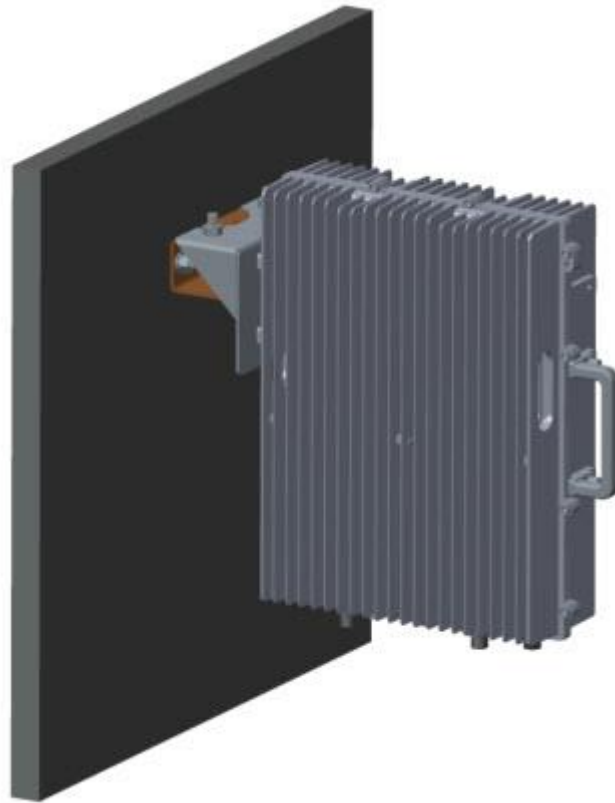
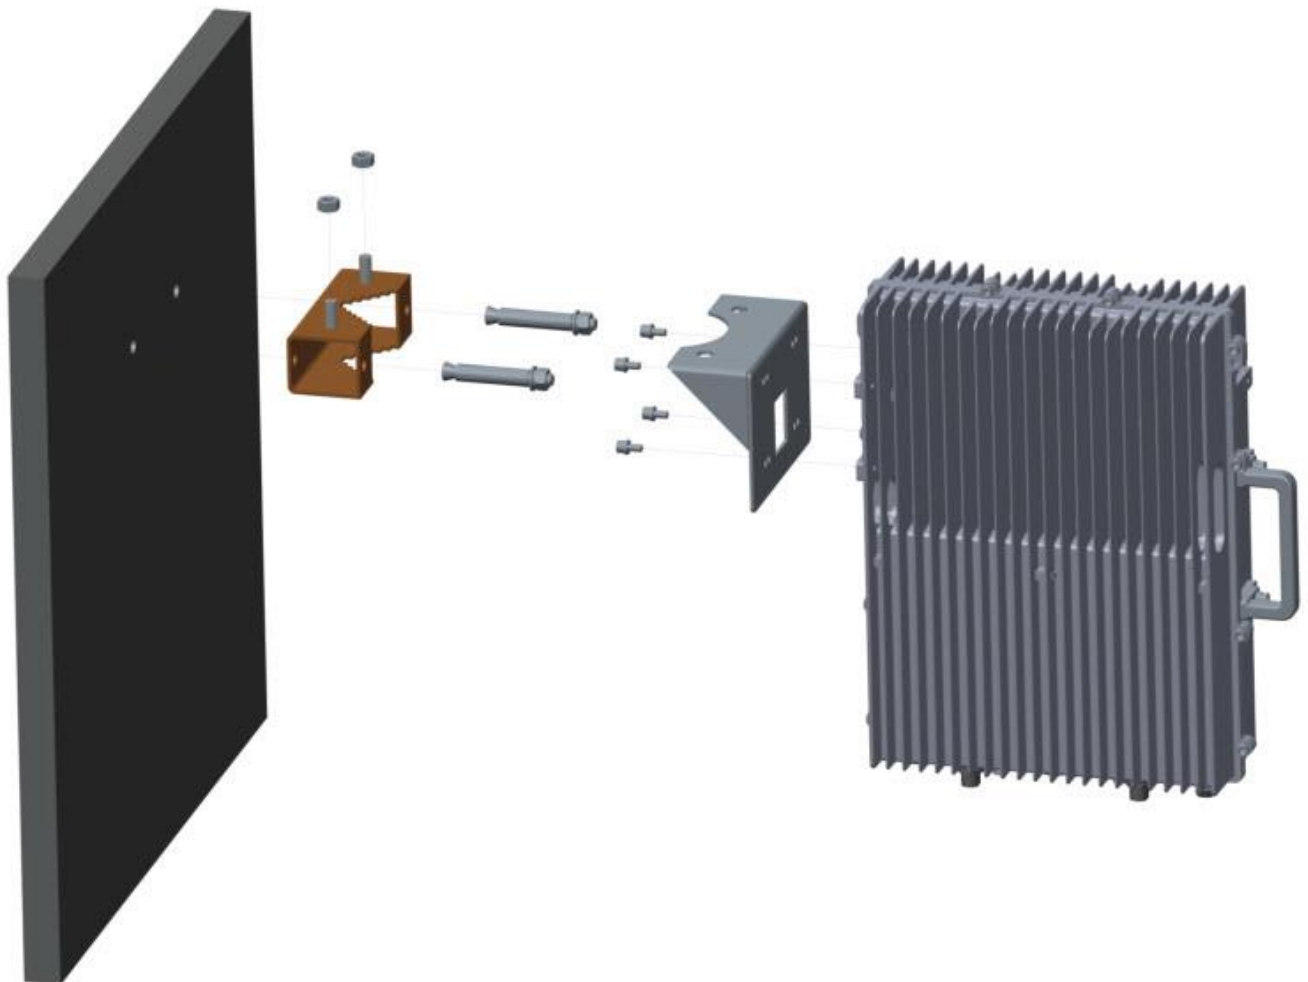

Figure 6-4 Schematic of RU Wall Side-mounting Installation
Figure 6-5 Exploded View of RU Side-mounting Installation
2) Side-mounting Installation(see Figure 6-4 and Figure 6-5):